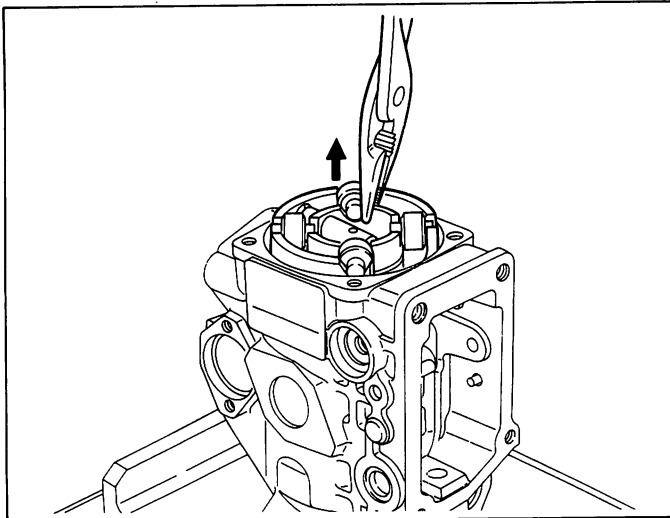

Fig. 29 Removing the roller assembly
31. Extract the roller assembly (20) by grasping the inside of the roller holder with long-nosed pliers and lightly pulling. (Fig. 29)